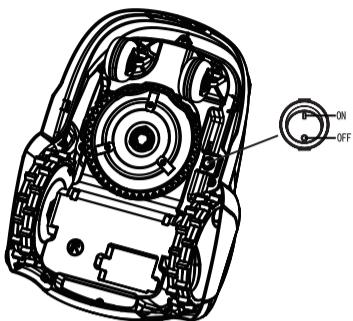

Fig. 4-1
1. Switch On/Off the Main Power (Fig. 4-1)